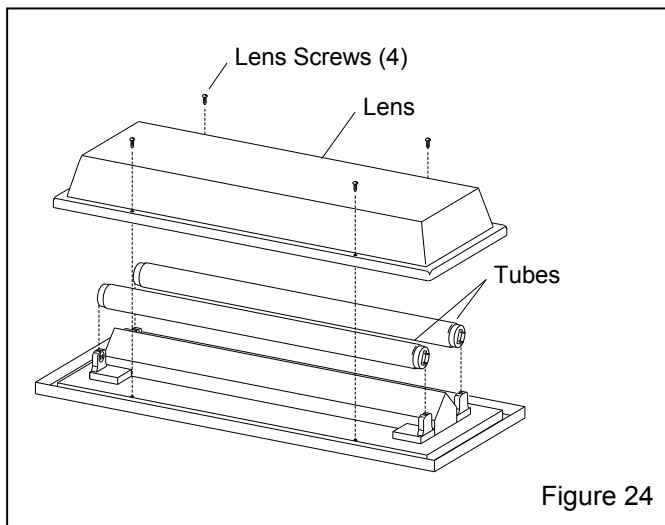

Figure 24
**7.7.3.2** Flip the fixture over to access the lens screws, refer to Figure 24.